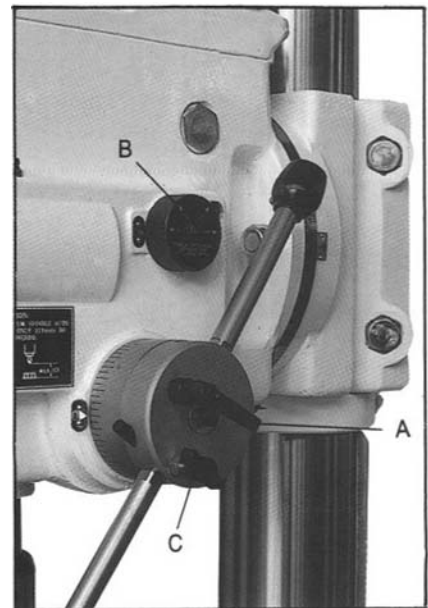

Figure 9
**Depth Stop (GHD-20PF/20PFT) (A, Figure 9)** - located on the downfeed assembly on the right side of the head assembly. When set, the quill will advance automatically or manually to a certain depth.
**Power Downfeed Speed Selector (GHD-20PF/20PFT) (B, Figure 9)** - located on the right side of the head assembly. Set to advance the quill at desired speed. Engage the power downfeed by pulling the handle assembly away from the head. Disengage the power downfeed by pushing the handle assembly toward the head. Tighten Lock Screw (C, Figure 9) to lock out the power downfeed and to keep the drill in manual feed only.